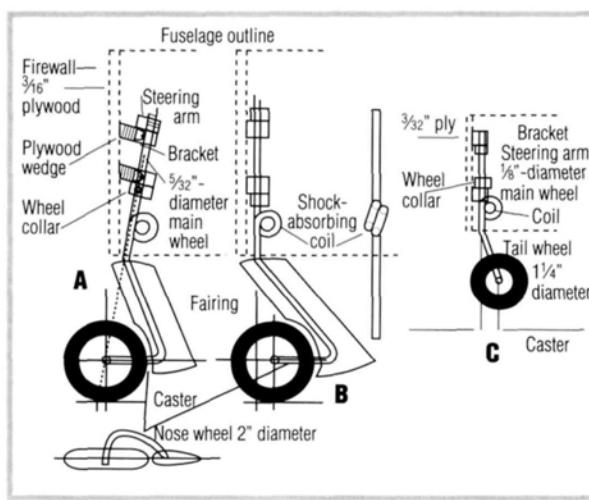
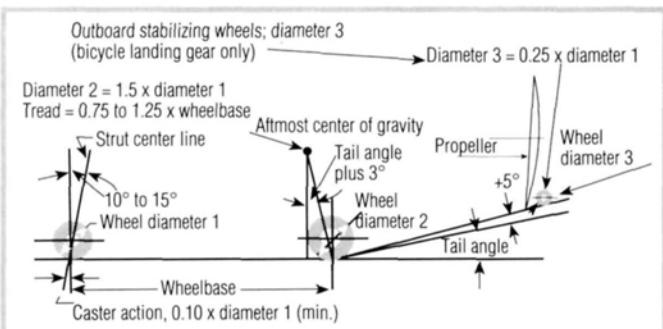

Figure 9. Nose- and tail-gear detail. Two arrangements for a nose wheel and one for a tail wheel.
Figure 13. Layout geometry for tricycle or bicycle landing gear for a pusher canard.
Figure 13 illustrates the trike geometry for a rear-engine canard. Obviously, a very high thrust line is needed to avoid the need for an unduly long landing gear for prop-tip protection. The
Steerable nose- or tail-wheel gear should incorporate a modest amount of caster. A modest amount of offset, as in the case of a grocery-cart caster wheel, facilitates steering. Similarly, in the case of landing gear, such gear tracks well and permits easy steering. Too much offset invites "shimmy." An offset of 20 percent of the wheel's diameter is sufficient. Figure 9 illustrates two nose-wheel arrangements (A and B) and one for a tail wheel (C).
shown in Figures 10 and 5, with the tail-wheel leg supported internally by nose-wheel brackets bolted to plywood, as in Figure 9 C.
For a canard with a rear engine, the nose wheel should be well forward, as in Figure 13. Note that, in Figure 9, A and B, the shock-absorbing coil is totally enclosed in the fuselage to reduce drag.